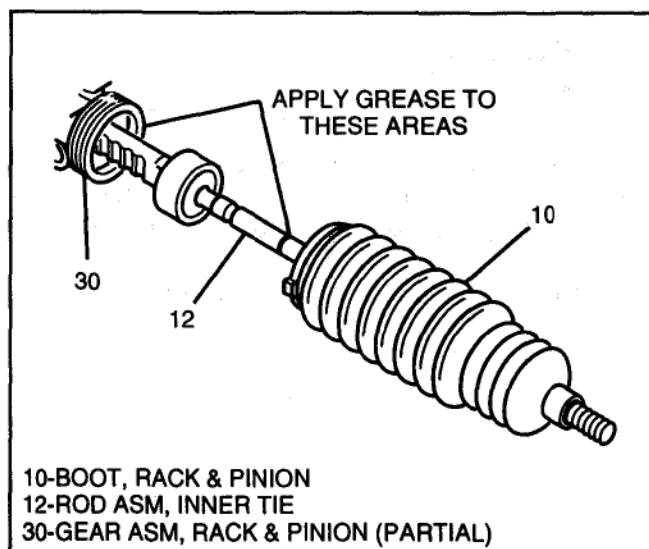

Figure 5 Boot Seal Grease Application
1. New seal retaining clamp (11) onto rack and pinion boot (10).
2. Apply grease to inner tie rod (12) and gear assembly (30) prior to boot installation (see Figure 5).
- Boot (10) onto inner tie rod assembly (12).
3. Boot (10) onto gear assembly (30) until seated in gear assembly groove.